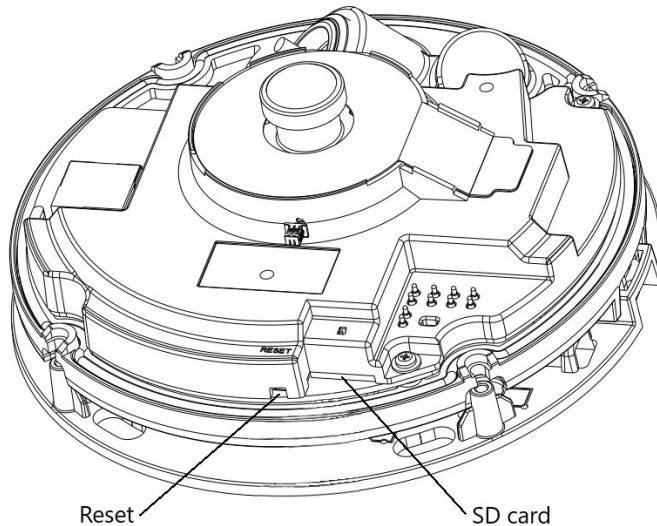

Figure 1-9
Step 1 Use a T10 hex wrench to unscrew the camera dome cover. Please refer Figure 1-9 for SD card slot and reset location.